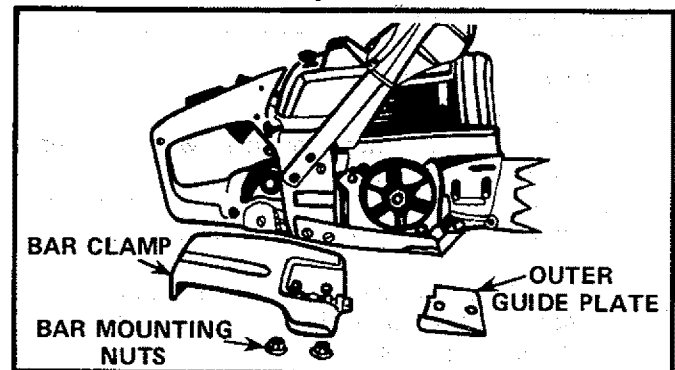

Figure 53
2. Remove the bar clamp, outer guide plate, guide bar, and chain. Figure 53.